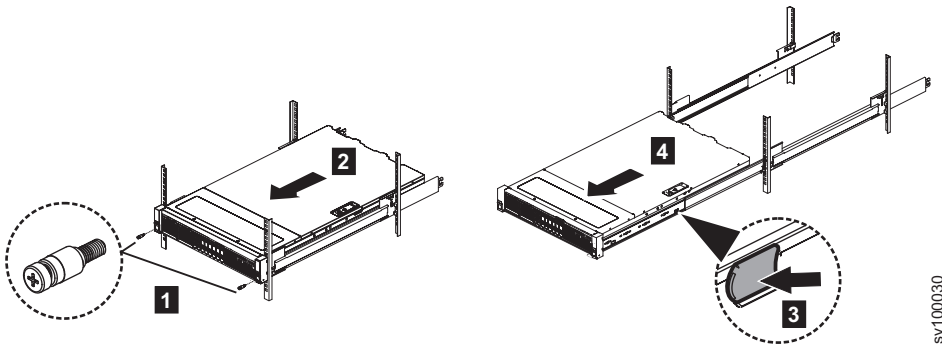

Figure 30. Remove the 2145-SV1 node chassis from the rack
4. To remove the chassis, complete the steps that are shown in Figure 30 on page 39